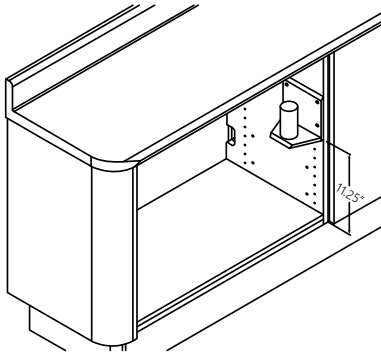

FIGURE 1
1. With a $\frac{7}{32}$ " hex key and a $\frac{9}{16}$ " wrench, install the **Post Wall/Cabinet Mount Adapter** to the cabinet with the supplied mounting hardware. **Figure 1**